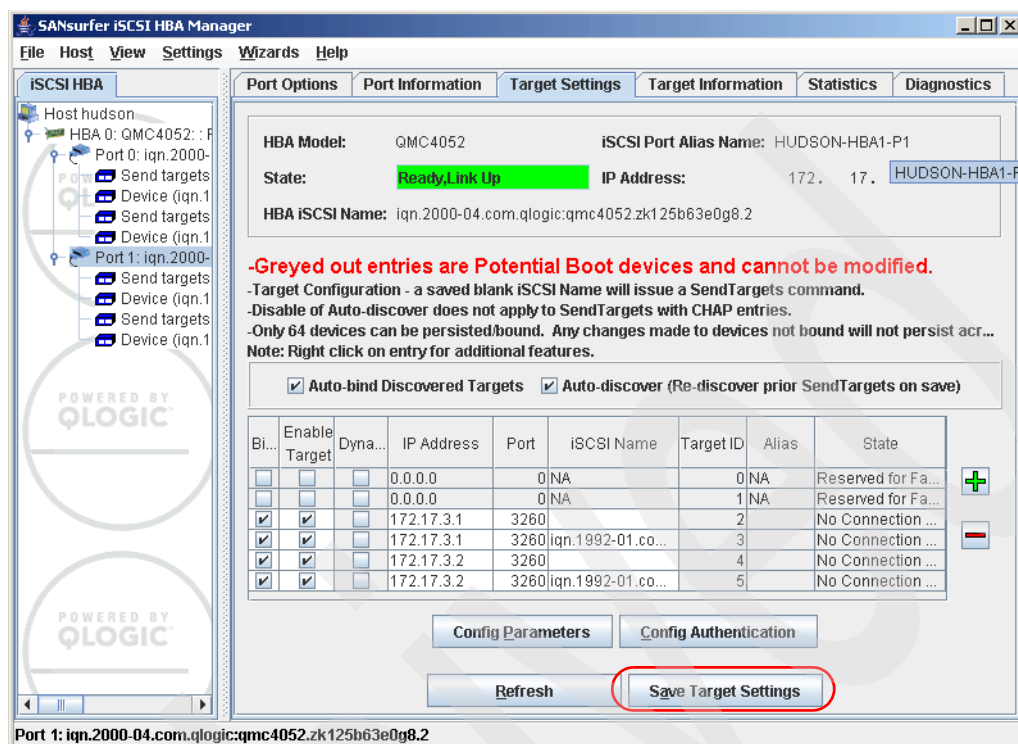

Figure 21-64 SANsurfer - iSCSI targets
- Click **Save Target Settings** to save the authentication modifications just made (Figure 21-64).